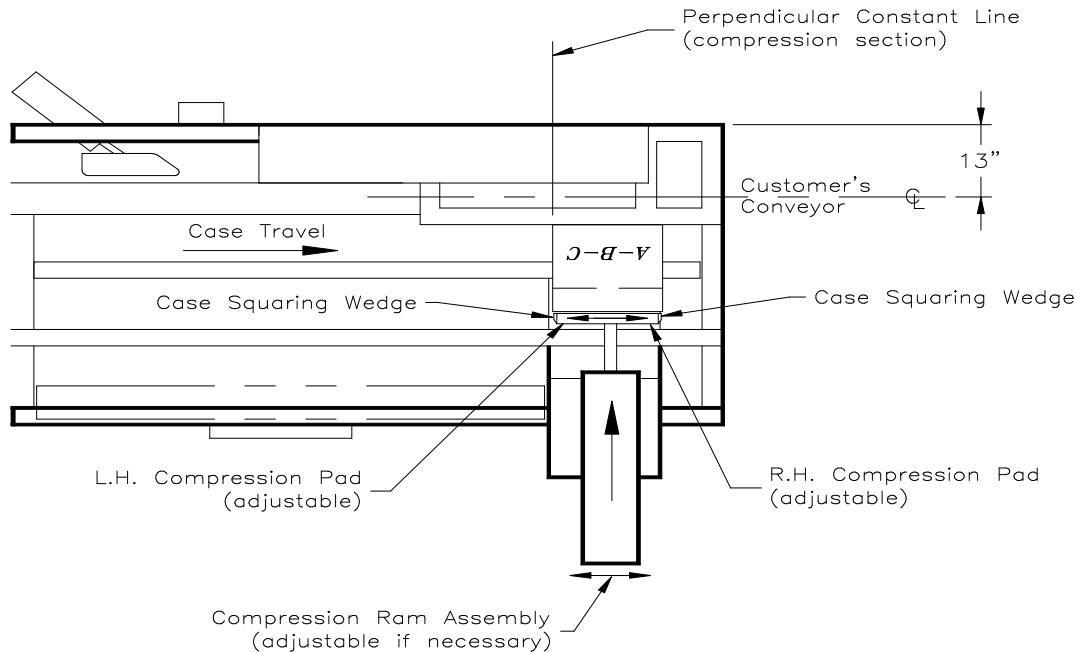

FIGURE 4.8 - RUNNING ONE CASE AS A TEST
- Energize the machine and run one case through to check adjustments and proper operation. When the case gets to the end of the machine and the compression ram starts to extend toward the case and is just about to hit it, stop the machine. The trailing edge of the case at this position is the perpendicular constant line of the compression section. De-energize the machine. See figure 4.8.
- The squaring wedge of the left hand compression pad should just graze the inside of the case as it enters it. Note, it may be necessary to identify the correct set of compression pads if this machine is to run more than one case size. See figure 4.8.
- Adjust the right hand compression pad so that the squaring wedge fits just inside the case for proper squaring of the case. See figure 4.8.